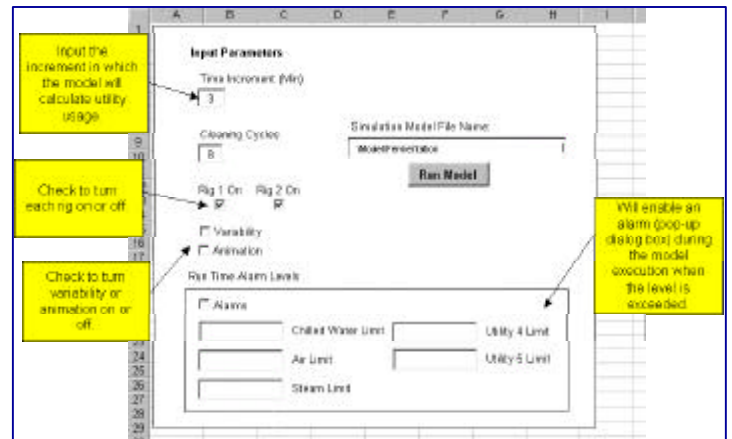

Figure 3: Simulation Run Page
- Run page that included basic model parameters and the button to initiate model execution. Figure 3